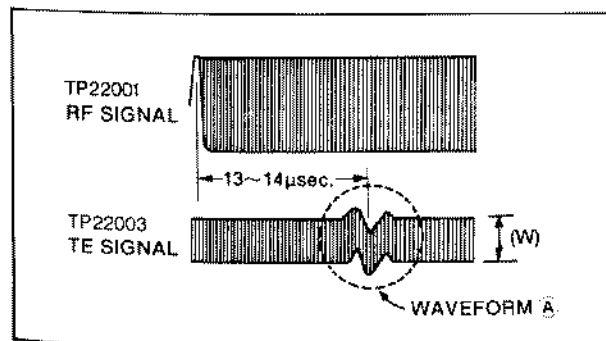

Fig. E15
- Confirm that Waveform (A) becomes as shown in Fig. E15.
- Set the Tracking ON/OFF switch of Servo Gain Fixture to "OFF" from "ON". Then adjust the Grating Hole so that the width (W) is maximize as shown in Fig. E15.
- Set the Tracking ON/OFF switch of Servo Gain Fixture to "ON" again. Then confirm that waveform (A) becomes as shown in Fig. E15.
- Adjust VR22302 (R—ADJ) on the Servo C.B.A. and Tangential (B) Adjustment Screw alternately so that the width (A) of RF Signal is maximize.
- Set the Tracking ON/OFF switch of Servo Gain Fixture to "OFF". Then adjust the Shaft Bearing (B) Adjustment Screw so that the TE signal of TP22003 becomes maximum as shown in Fig. E15.